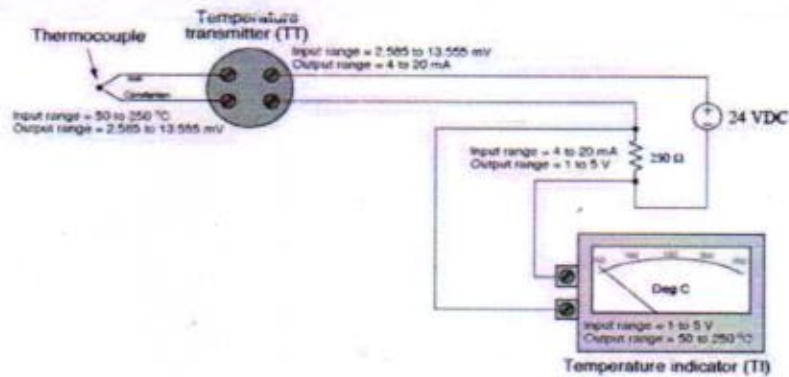

Figure 02: Circuit Diagram of thermocouple temperature-measurement system
- ii. Figure 02 shows a detailed circuit diagram of a temperature-measurement system that uses a thermocouple as a sensing element. Using the information in Figure 02, draw the simplified block diagram of a temperature measurement system. (05 marks)